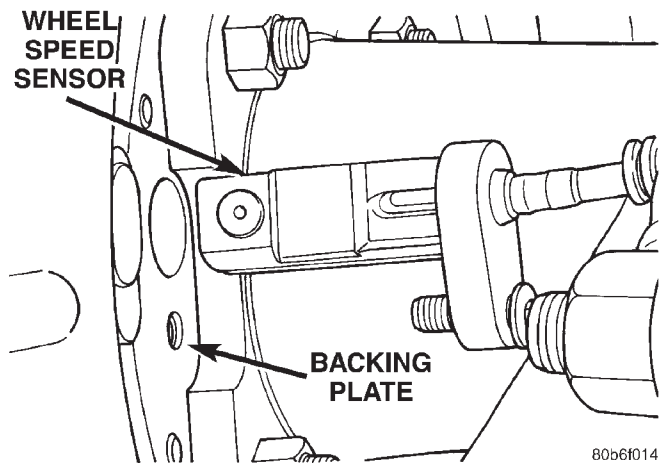

Fig. 13 Wheel Speed Sensor
- (1) Insert sensor through the backing plate (Fig. 13).
- (2) Apply Mopar Lock N' Seal or Loctite 242 to original sensor bolt. Use new bolt if original is worn or damaged.